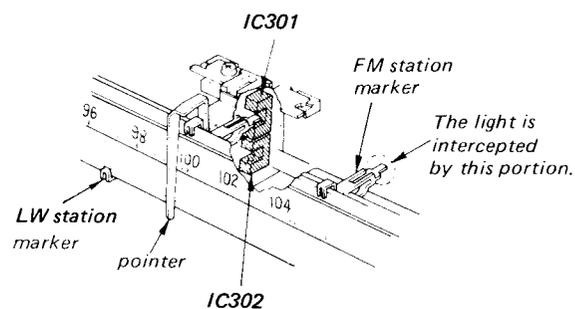

Fig. 2
- 3 Match the dial pointer to the desired station marker. (See Fig. 2)
- d) D201 is opened, B+ voltage is not supplied to the terminal (23) of IC201.
- e) FM circuit operates (The terminal (23) of IC201 serves as a switch).